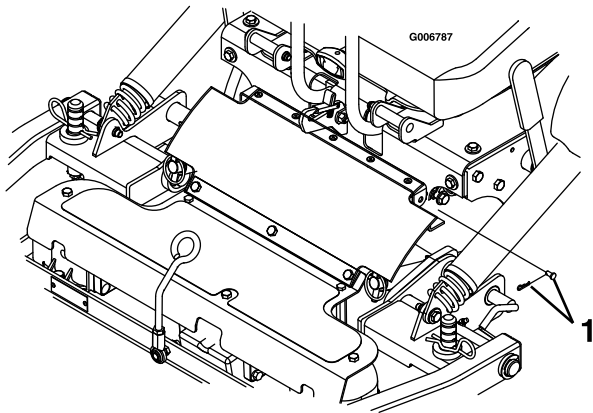

Figure 70
- Remove the hairpin and clevis from both sides of the PTO guard (Figure 70).
- Align the upper portion of the rubber PTO guard to the tabs on the front of the console and secure with a clevis pin and hairpin on each side (Figure 70).